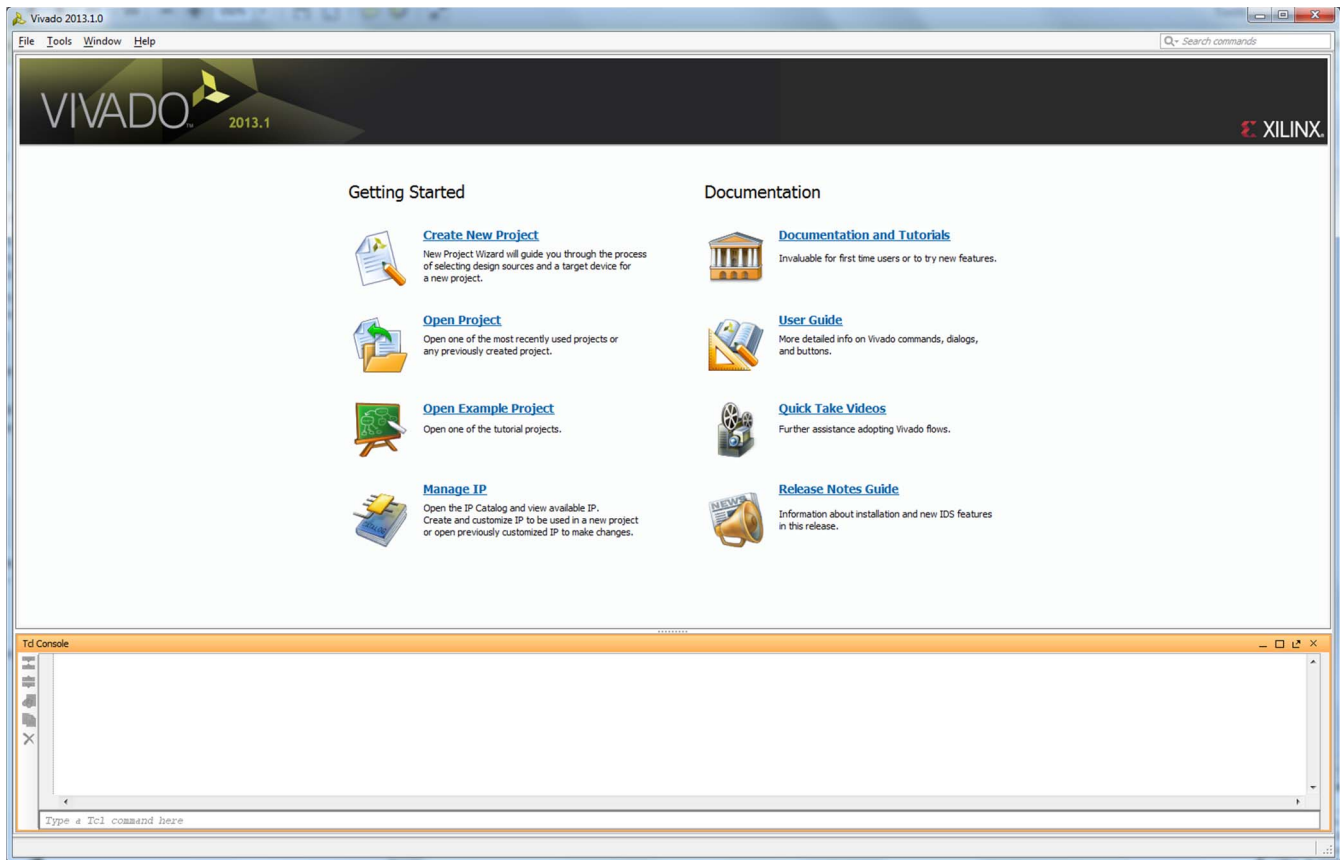
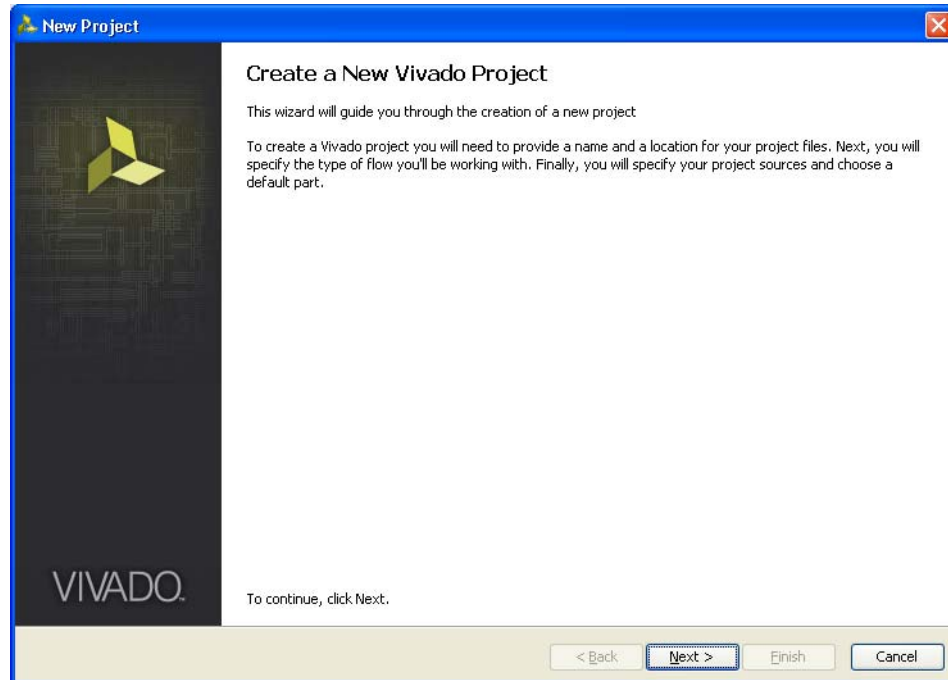

Figure 5-1: Vivado Design Suite
Figure 5-2: Create a New Vivado Tool Project
1. Start the Vivado Design Suite (see Figure 5-1).
2. To create a new project, click the **Create New Project** option shown in Figure 5-1 to open the page as shown in Figure 5-2.